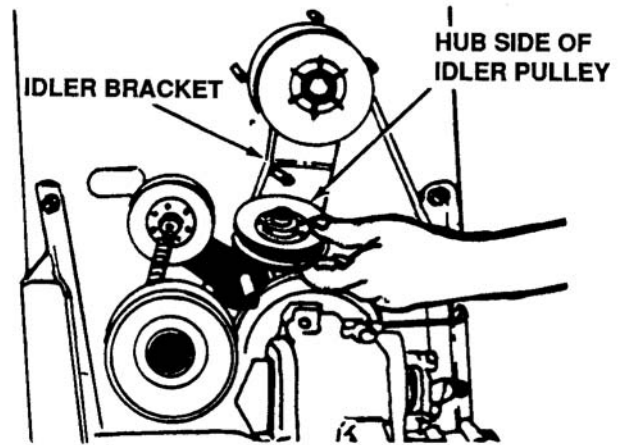

Figure 4-25. Reassembly of Idler Pulley
11. Upon reassembly of idler pulley, be certain the hub side of idler goes against the idler bracket. See Figure 4-25.